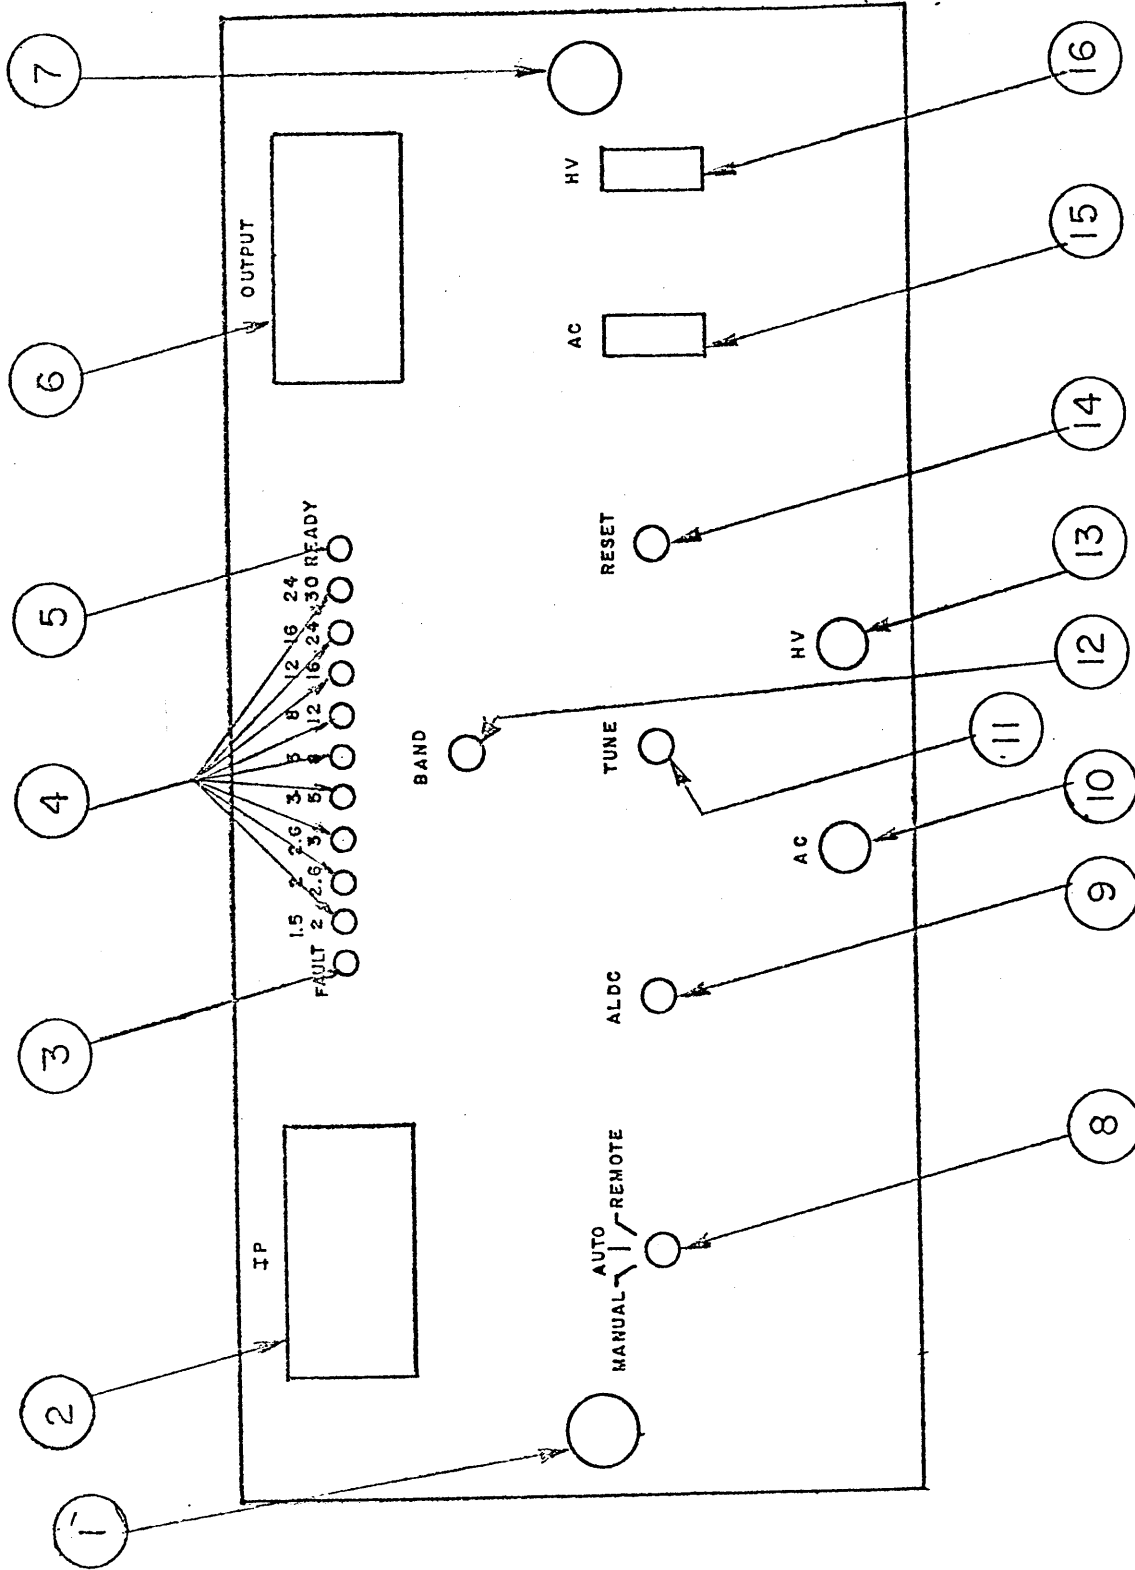

Figure 3-1. Controls and Indicators
All of the controls and indicators are located on the front panel illustrated in figure 3-1. They are functionally indentified in Table 3-1.
TABLE 3-1. FRONT PANEL CONTROLS AND INDICATORS (Refer to figure 3-1)
TABLE 3-1. FRONT PANEL CONTROLS AND INDICATORS (Refer to figure 3-1) (cont)
3-3. PRELIMINARY PROCEDURES (Refer to figure 3-1.)
b. MANUAL OPERATION. (Refer to figure 3-1.)
- (1) Connect the power source to J101.
(9) Increase the amplitude of the rf input signal until full output of 500 watts is achieved. The plate current indicated on the IP meter (2) should be 400 - 550 ma depending on the frequency. This completes the manual tuning procedure.
c. AUTOMATIC OPERATION. (Refer to figure 3-1.)
(1) Connect the power source to J101.
(10) Increase the amplitude of the rf input signal until the full output of 500 watts is achieved. The plate current (as indicated on the IP meter (2) is 400 - 550 ma depending on frequency. This completes the automatic tuning procedure.
- d. REMOTE OPERATION. (Refer to figure 3-1.)